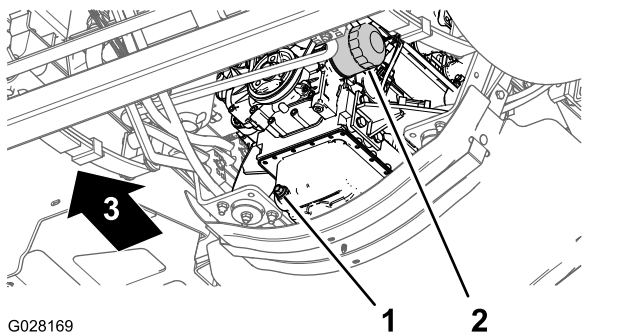

Figure 68
3. Align a drain pan under the engine-oil filter (Figure 68).
4. Remove the old oil filter (Figure 68).
8. Install the oil filter to the filter adapter, turn the oil filter clockwise until the rubber gasket contacts the filter adapter, and then tighten the filter an additional 1/2 turn (Figure 68).
1. Align a drain pan under the drain plug (Figure 68).
2. Remove the drain plug (Figure 68) and allow the oil to drain completely.